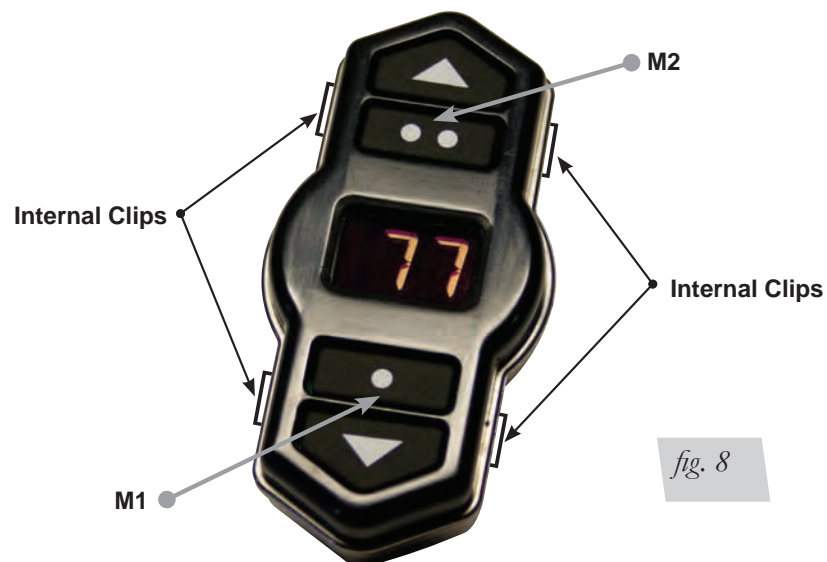

fig. 8
3. In the settings mode the M1 button (fig. 8) will scroll through all the backlighting options.
4. The M2 button (fig. 8) will toggle between the unit of measure for the pressure and display "PS" for psig and "BA" for BAR.
1. To remove the two CR2032 batteries use a small flat screw driver to separate the two halves of the key fob by prying at the internal clip locations shown in fig. 8.